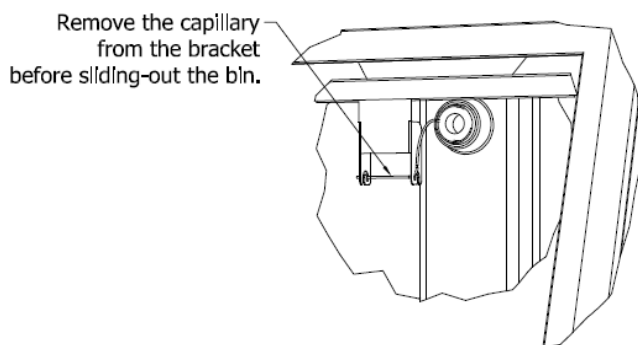

Fig. 16
4. Detach the capillary tube from the bracket - holder. (Fig. 16)